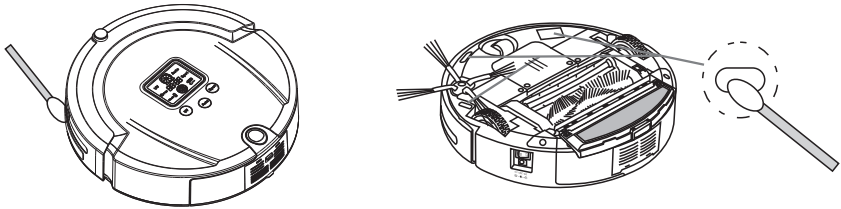

Figure 1
2. The wall detection sensor is at the front of the cleaner, while the ground detection sensor and infra-red transparent window are at the bottom of the vacuum (Refer Fig 1).